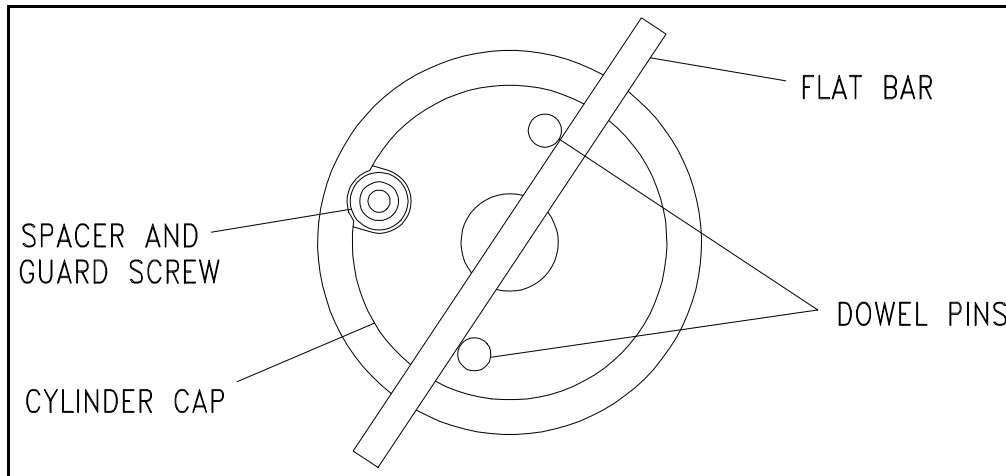

Figure E-3. Cylinder End Cap.
- b. Remove female coupler (6) from cylinder end cap (7) and allow fluid to drain from cylinder.
- c. Using a 5/32-inch Allen wrench, remove end cap guard screw (8) and spacer (9) from cylinder end cap (7).
- d. Place two close-fitting steel dowel pins (approximately 3/8-inch diameter) in holes provided in cylinder end cap. (See Figure E-3).
The cylinder is nearly identical on each end and could be assembled with either end next to the yoke. The end of the cylinder without a spacer index should be assembled on the yoke. (See Figure E-3).
- b. Coat threads of yoke (1) and interior of cylinder (10) bore with a light coat of Never-Seez or equivalent.
- c. Using a strap or a chain wrench, reinstall cylinder (10) with yoke marking on the yoke (1) by turning it clockwise.
- d. Assemble two fixed blades (2, 3) with the two fixed blade spacers (25) between them and secure them with the fixed blade clamping screw (24).
- e. Insert assembled fixed blades (2, 3) into yoke (1) and secure with pivot pin (23).
- f. Attach clevis (22) to yoke (1) with grooved pin (21) and two retaining rings (20).
- g. Add Never-Seez or equivalent to compression spring (15) and surrounding cavity until thoroughly coated.
- h. Insert the two piston spring washers (14), the compression spring (15) and the piston assembly (13, 17) in the cylinder (10) bore.
- i. Install piston seal (16), Teflon backup washer (12), and cylinder cap seal (7) in the cylinder (10) behind the piston (13).
- j. Coat threads of cylinder end cap (7) with Never-Seez or equivalent.
- k. Ensure Teflon backup washer (12) and cylinder cap seal (11) are in place.
- l. Thread cylinder end cap (1, Figure E-3) into cylinder (14).